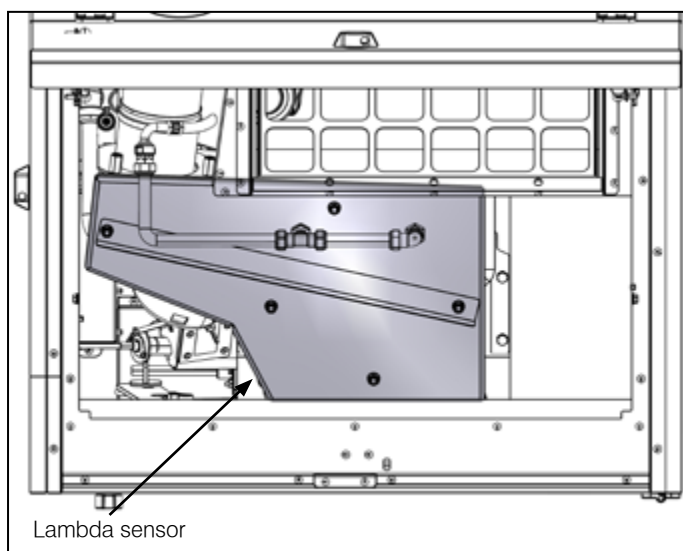

Figure 11-7: Heat exchanger cover and Lambda sensor position
- Unscrew and remove the five nuts (and washers) securing the heat exchanger cover and remove it from the top of the heat exchanger. Refer to Figure 11-7.